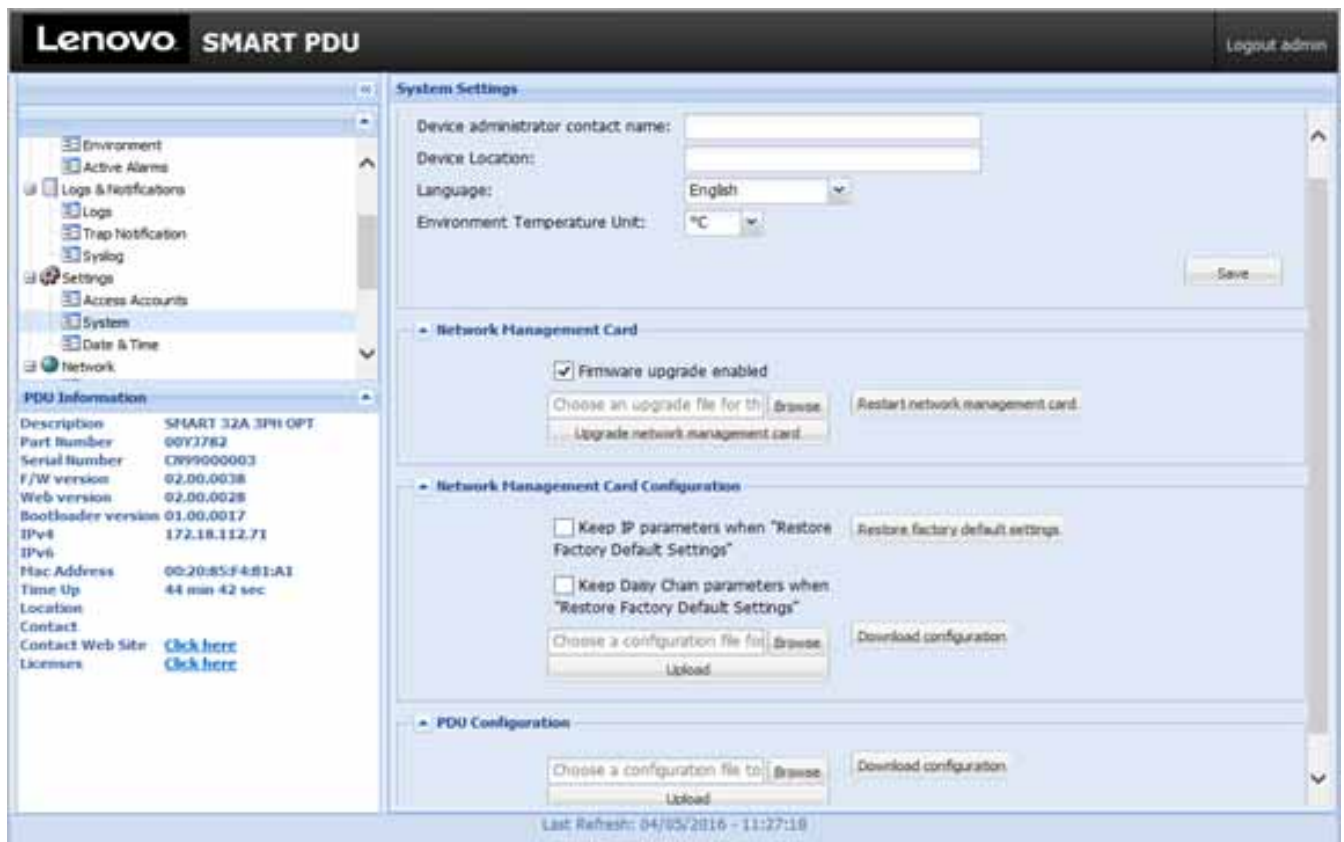

Figure 79. System Settings Page
7. From the menu bar, click Settings and then System. The System Settings page displays in the Main Application window (see Figure 79).